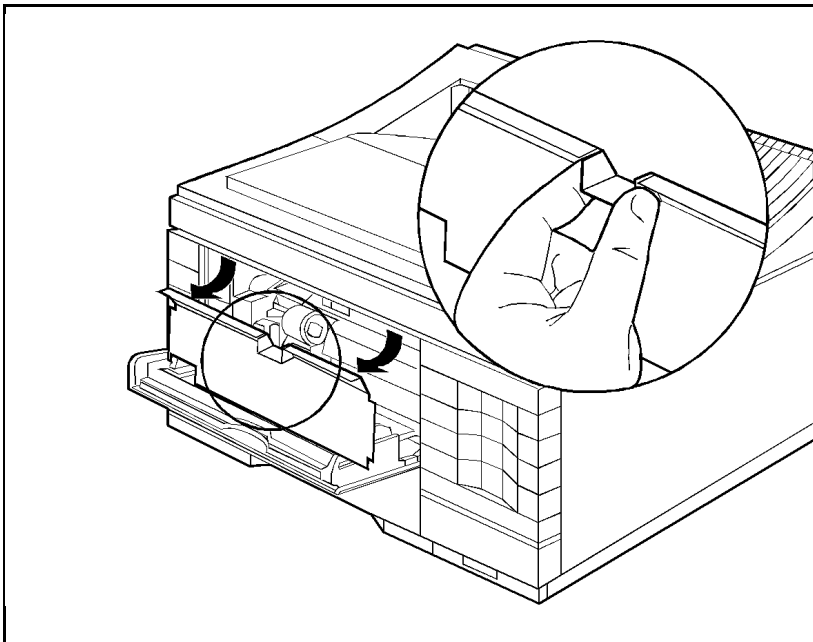

Figure 3-21 Remove the Black Plastic Cover
- 3 Remove the black plastic cover from inside the printer (see Figure 3-21).